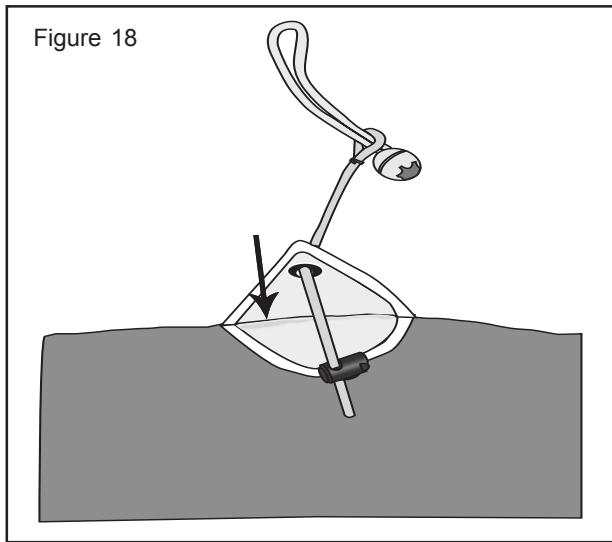

Figure 18
**STEP 28.** Attach the long (20") bungee cords to the support panels at the left and right front corners of the screen room. See Figure 18. Place a cord lock on the bungee cord.